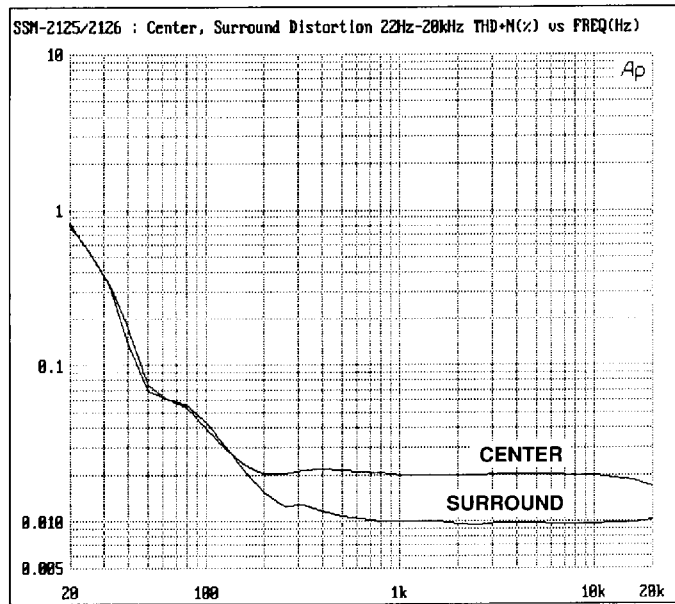

Figure 1. THD+N vs. Frequency,* Center and Surround Channels ($V_{IN} = 0$ dBd, $R_L = 100$ k Ω)
*80 kHz low-pass filter used for Figures 1 and 2.